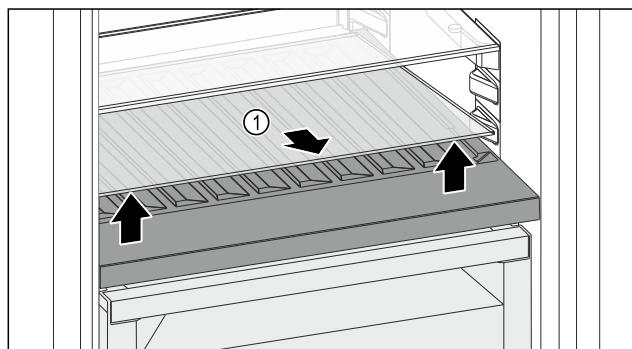

Fig. 134
- Glass shelf Fig. 134 (1) at the cutout in front lift and remove.
- Glass shelf Fig. 134 (1) outside the device securely store.